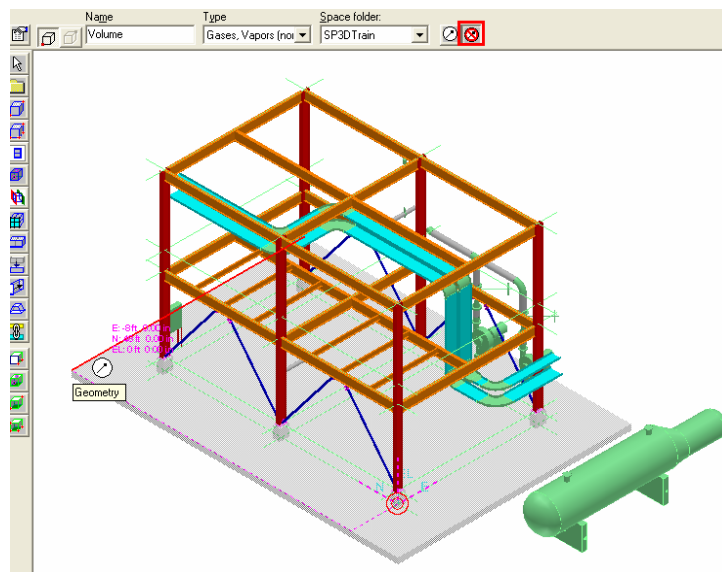

Figure 2: Locate First Point
10. Toggle the associative points off, as highlighted in Figure 2. Then, locate the corner of the slab with the SmartSketch key point and click to define the first point of the rectangular volume, as shown in Figure 2.